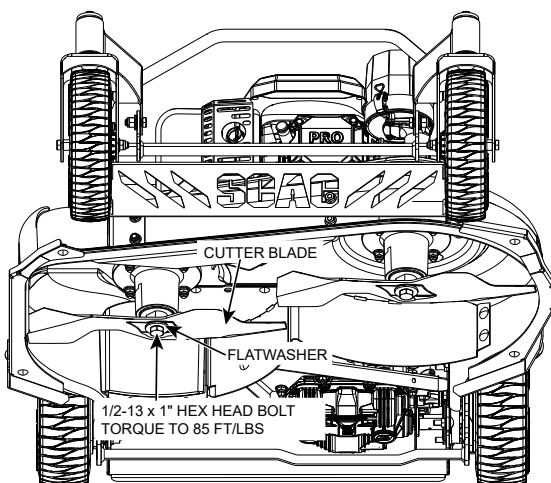

Figure 7-7. Blade Replacement
4. Secure the cutter blades to prevent them from rotating, remove the blade attaching bolt. Remove the cutter blade, bolt and flatwasher from the spindle shaft. See Figure 7-7.
6. Install the cutter blade onto the cutter spindle shaft. Secure the blades from rotating and torque to 85 ft/lbs. See Figure 7-7.